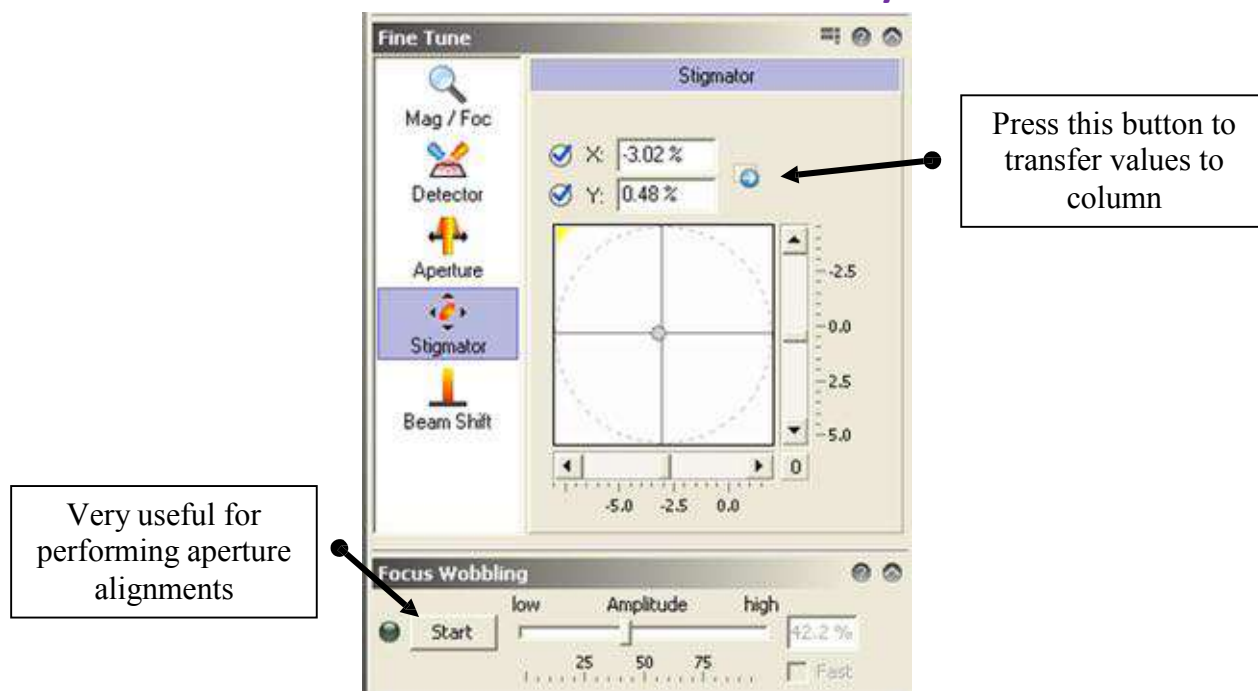
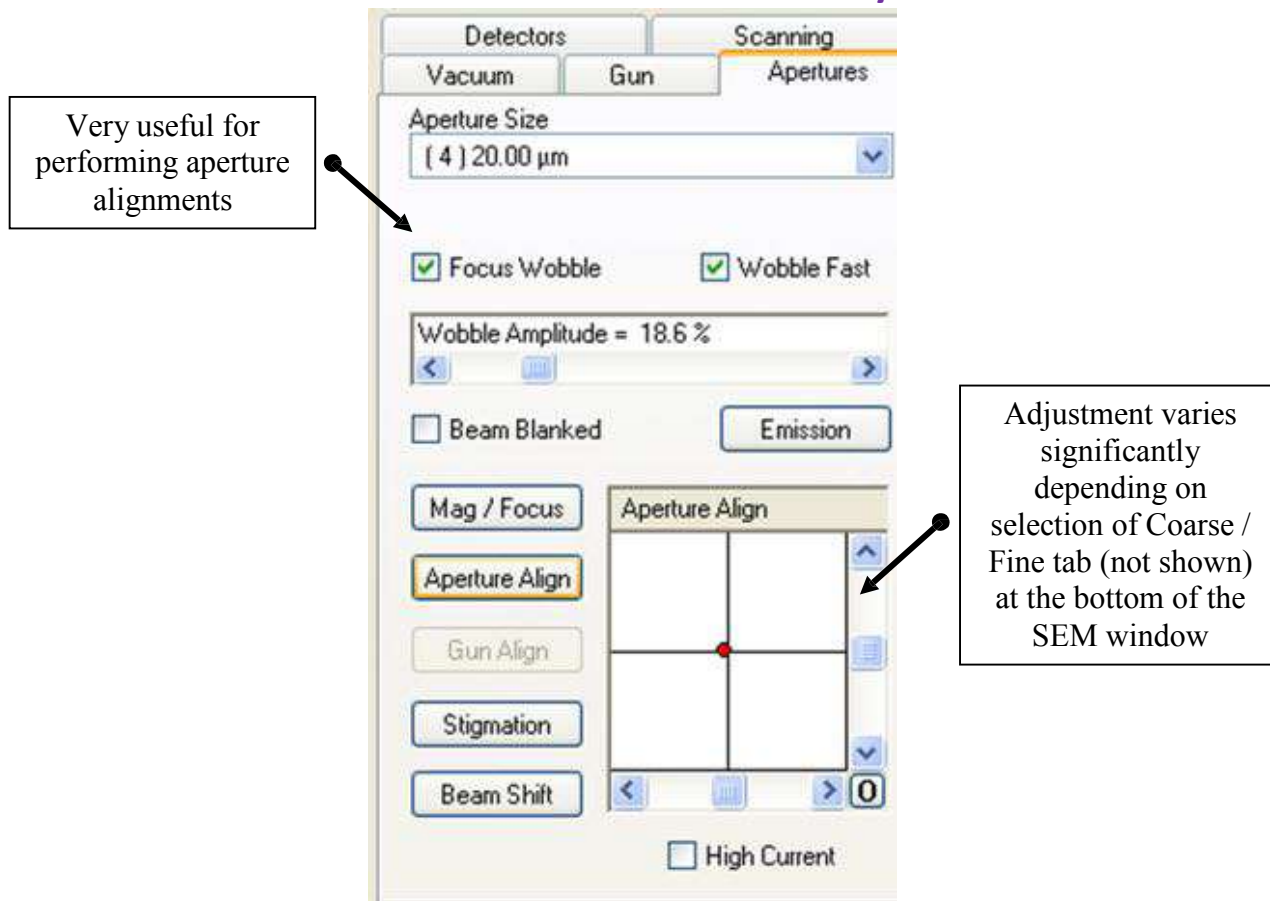

Figure 19 Column adjustments in Column Control tab in the Raith software
Figure 20 Apertures tab in the SEM software
17. Find a particle of interest (approx. 200 – 300 nm wide) to perform column corrections namely focus, aperture alignment, and stigmation. These column corrections may be performed using either the Raith software (Fig. 19) or the SEM software (Fig. 20). A suggested sequence of action is provided:
- Perform stigmation correction – Test (1): particle shape should not skew upon changing
- ❖ If you encounter a black SEM screen after ramping up the voltage, (i) ensure the correct **detector** is used (see Fig. 15) as follows: **InLens** for 0.1 – 20 keV, and **SE2** for 20 – 30 keV, (ii) ensure the **Emission** mode is not selected (see Fig. 20), and (iii) correct **brightness/contrast** levels are used.